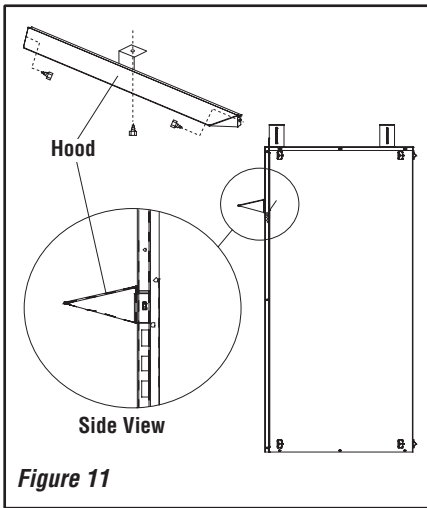

Figure 11
**NOTE:** A hood comes standard and is required. The factory-supplied hood must be installed on the firebox for safe operation in all installations. See Figure 11.
- Align the hood with the holes in the side frames as shown in Figure 11. Install three screws as shown in Figure 11. Make sure hood is level and secure.